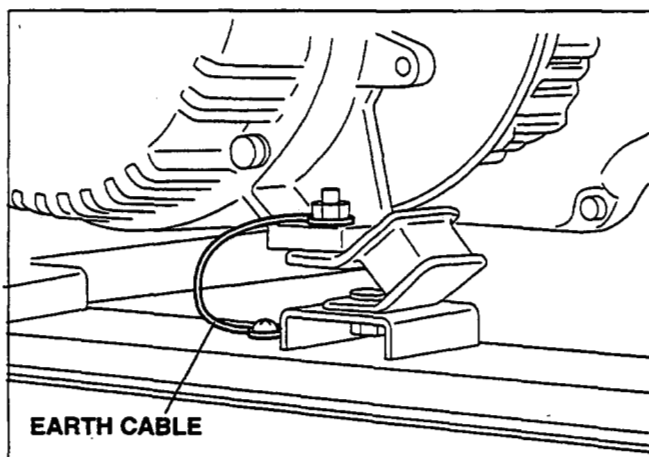

Fig. 10-28
- (6) Fasten the other earth cable with 5 mm terminal to the unpainted bolt hole on the frame. (See Fig.10-28.)